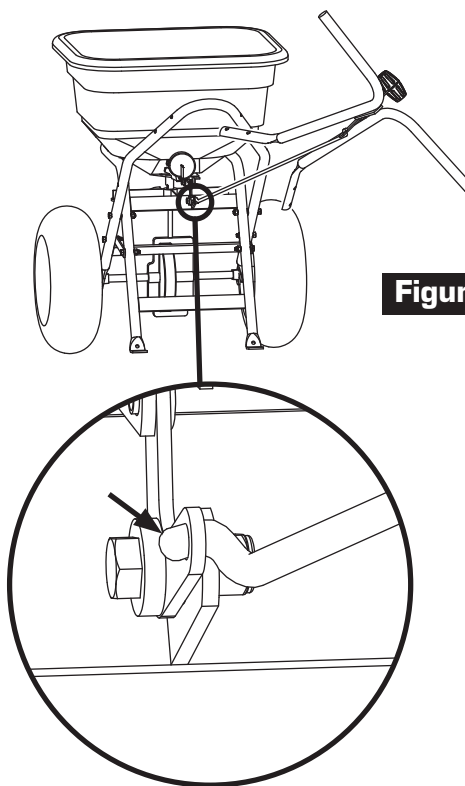

Figure 9
9. Turn Handle Assembly sideways and install Linkage into Rate Gate Lever as shown in Figure 9.